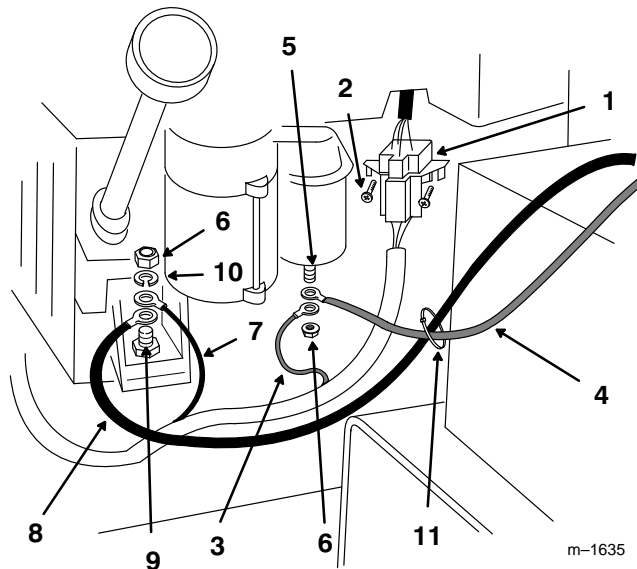

Figure 8
6. Route wire harness around right side of engine. Plug surface-mount plug into engine plug, in front of starter. Secure wire harness plug to engine with screws. (Fig. 8).
7. Attach red wire ring terminal and positive, red battery cable to lower terminal of starter solenoid. Secure with flange nut (Fig. 8).
8. Attach black wire ring terminal and negative, black battery cable to right rear engine mounting bolt with lock washer and second nut (Fig. 8).